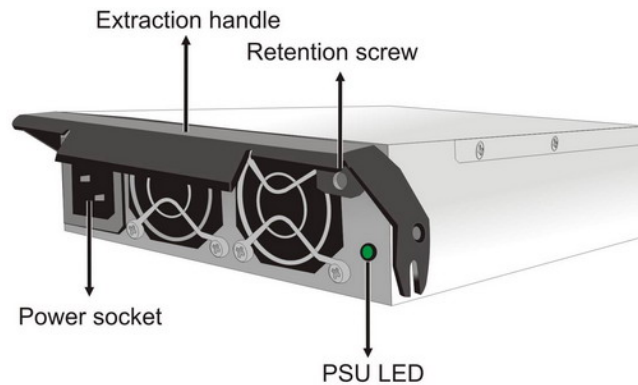

Figure 5-5: PSU Parts Identification
- Step 1. Power off the PSU.** The power switch is located on each PSU's rear-facing panel. (See **Figure 5-5**)